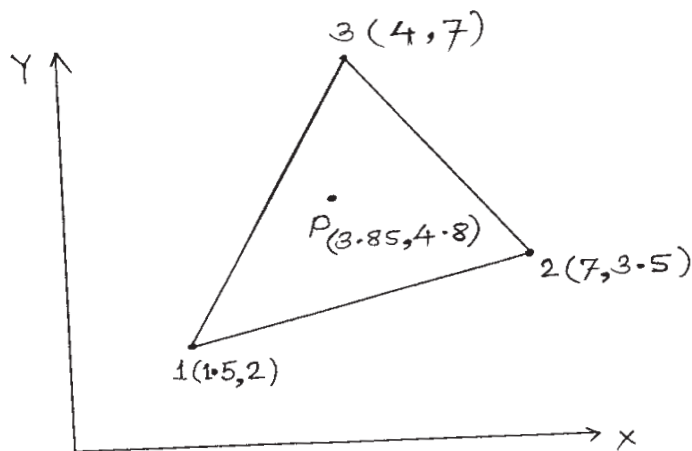

Figure 2.2
- c) Evaluate the shape function N_1 , N_2 & N_3 at the interior point P for triangular element shown in figure 2.2. [6]